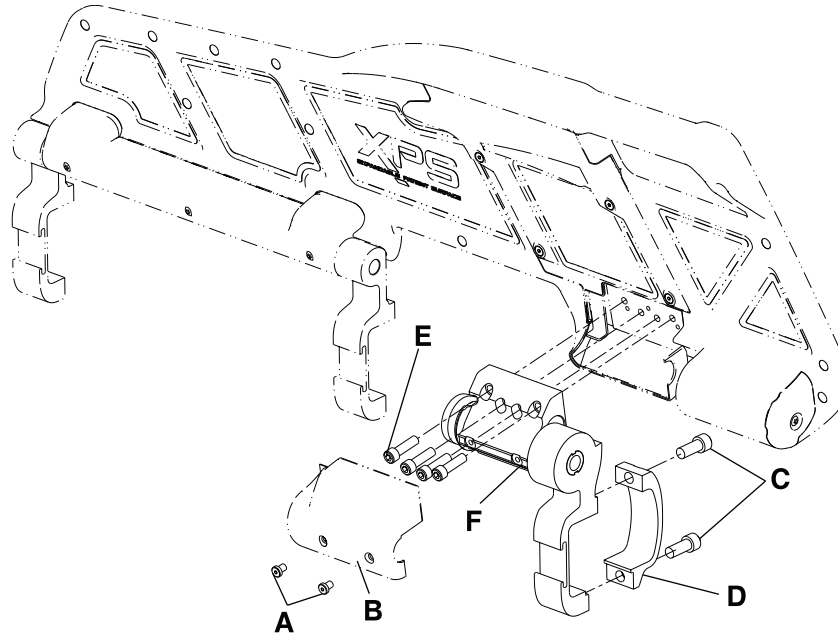

Figure 12: Ratchet assembly replacement (XPS)
3. Using a 3/32" hex wrench, remove the two screws (A) that secure the ratchet cover (B) to the ratchet assembly. Remove the cover (Figure 12 on page 44).
4. Using a 1/4" hex wrench, remove the socket head cap screws (C) that secure the siderail clamp (D) to the ratchet assembly at the foot end of the main assembly (Figure 12 on page 44). When reinstalling, use a torque wrench to torque both new screws to 22 ± 3.3 ft-lb.
5. Using a 3/16" hex wrench, remove the four screws (E) that secure the ratchet assembly (F) to the overmold assembly and discard. Remove the ratchet assembly (Figure 12 on page 44). When reinstalling, use a torque wrench to torque the four new screws to 9.5 ± 1.5 ft-lb.